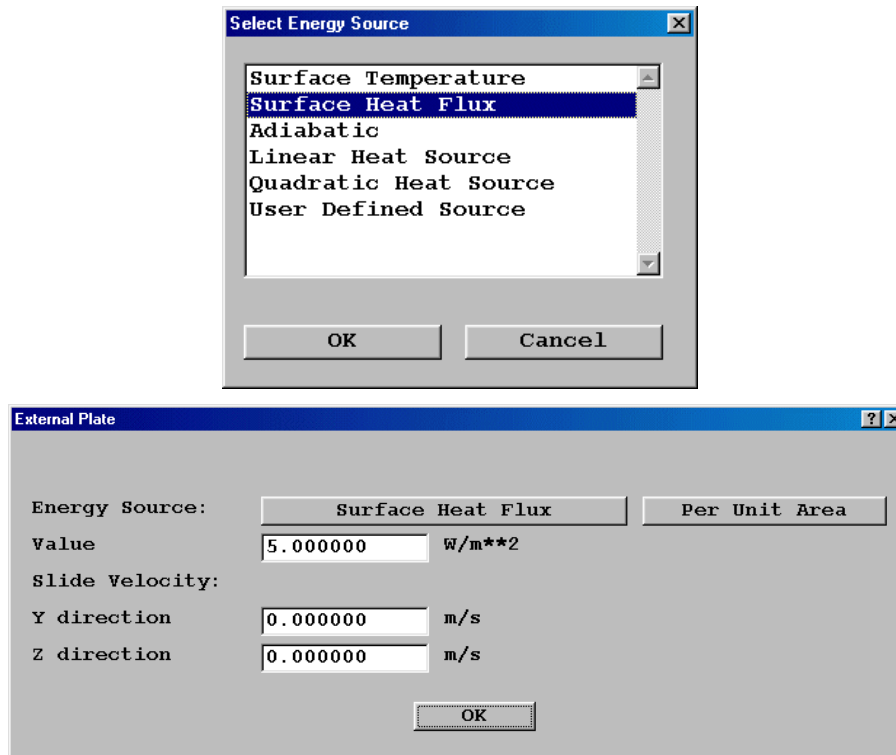

Figure 2.10 The attributes of the wall at x=0
- Click on 'Attributes', and set energy source to 'Surface heat flux' of 5W/m2 as shown in figure 2.10